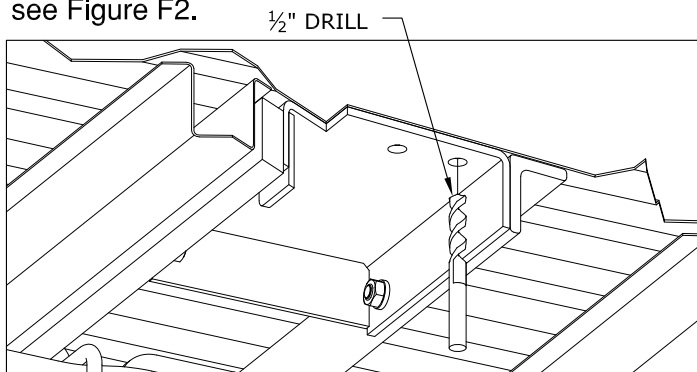

Figure F2: Cut away view from under the bed
1. **Drill the holes.** From under the bed use a drill and a $\frac{1}{2}$ " drill bit to drill through the bed using the four holes that match up with a low rib in the truck as a guide. Remove any burrs created during the drilling process, see Figure F2.